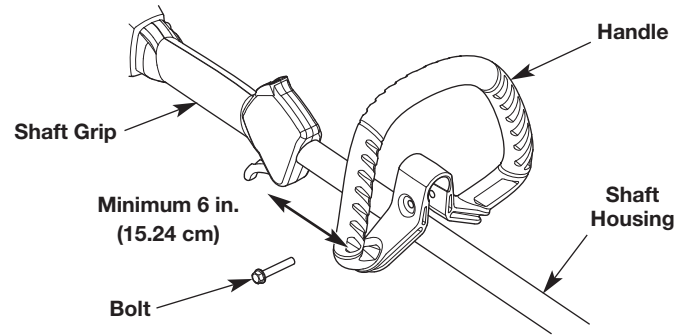

Fig. 1
1. Push the handle down onto the shaft housing (Fig. 1). The bolt hole in the handle should be to the right.
2. Insert the bolt into the bolt hole and push it through (Fig. 1). Tighten the bolt with a 3/8" socket, but do not tighten the bolt completely.
3. While holding the unit in the operating position, move the handle to the location that provides the best grip. Place it a minimum of 6 inches (15.24 cm) from the end of the shaft grip (Fig. 1).
1. Loosen the bolt with a 3/8" socket (Fig. 1).
2. While holding the unit in the operating position, move the handle to the location that provides the best grip. Place it a minimum of 6 inches (15.24 cm) from the end of the shaft grip (Fig. 1).